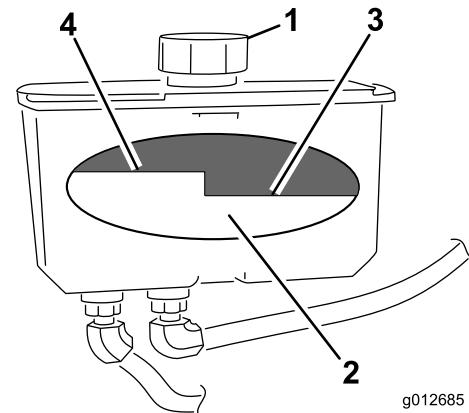

Figure 73
4. Clean area around cap and filler neck of hydraulic tank (Figure 73).
- Remove cap from filler neck. Look inside to check the fluid level in the reservoir. (Figure 73).
Note: The fluid level should be to the top of the hot level of the baffle, when the fluid is warm (Figure 73).